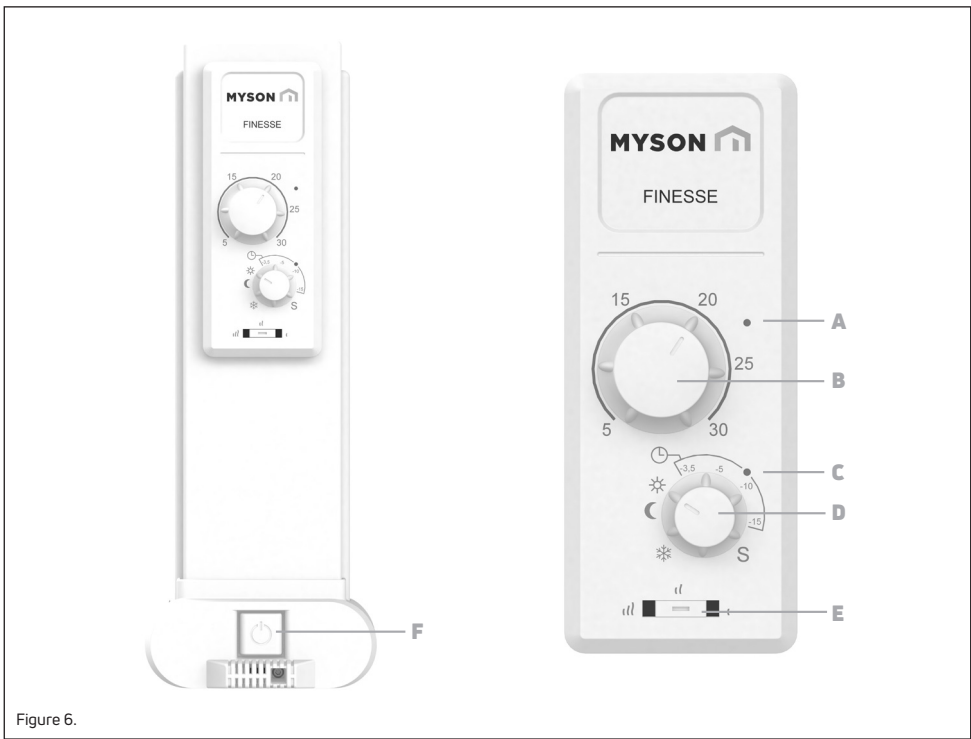

Figure 6.
• The On/Off button is located at the bottom of the control side of the radiator (F, figure 6). The radiator should only be switched "on" when it is correctly installed and
- Select one of the following operating modes using dial D (figure 6):
- The switch (E, figure 6) at the bottom of the control panel can be used to limit the output (surface temperature) of the heating element in the front panel.
- Two LED indicators (A and C, figure 6) indicate the working mode of the radiator.
- To activate the Key Lock function, slide the switch (E, figure 6), to the left III, then to the right I, then back to the left III. Repeat this sequence 3 times.